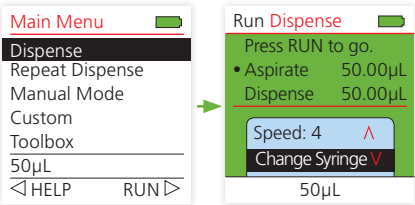

Figure 5. Selecting Change Syringe through the Quick Access Menu.
**1 Selecting Change Syringe through the Quick Access Menu.** Choose Dispense from the Main Menu, then from the Run Dispense window use the touch wheel to select Change Syringe from the blue Quick Access Menu (Figure 5).